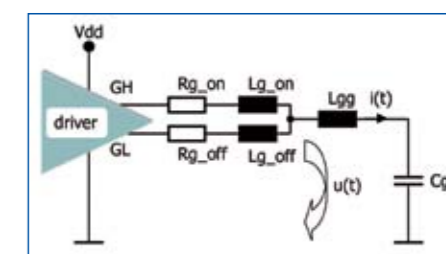
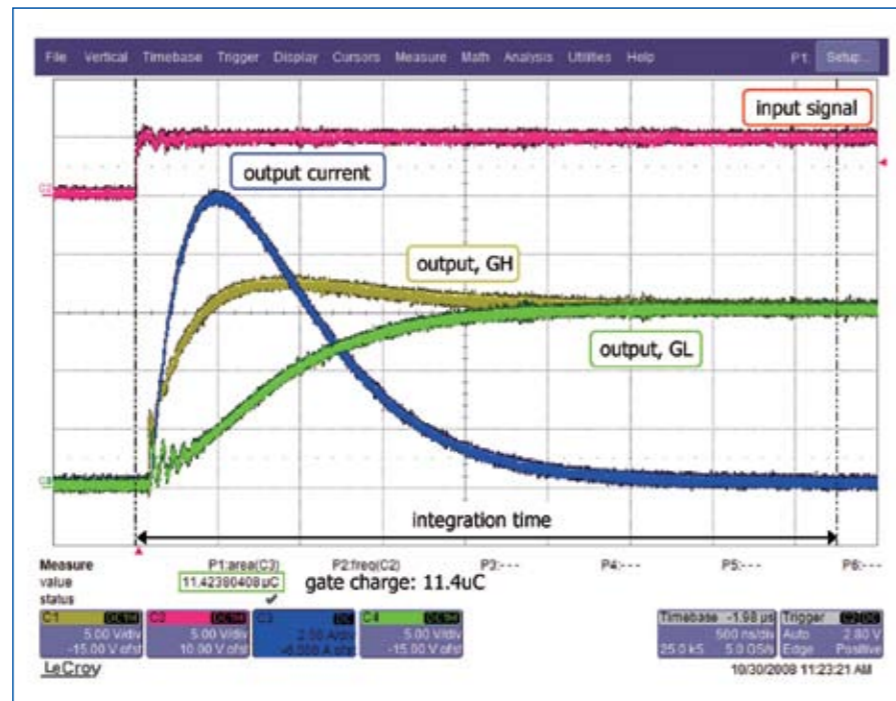

Figure 4: Circuit representation of a typical gate loop (simplified).
Figure5: Turn-on transition at 1W gate resistance and 15V driving voltage.
At very high frequency switching, the influence of parasitic circuit elements has to be considered to obtain optimum performance in the gate drive loop. Figure 4 illustrates a simplified gate loop consisting of a driver module, the turn-on and turn-off gate resistors, parasitic inductances of the gate resistors, the parasitic inductance of the power switch gate and an effective load capacitor. This configuration is a well-known standard RLC resonance circuit. For both the turn-on and turn-off transition, the elements can be concentrated into an effective gate resistance R_g , the load capacitance C_g and the sum of all effective parasitic inductances L_g . The gate drive current $i(t)$ is then governed by the differential equation (1).
In real-life applications, the model from Fig. 4 is too simplistic to model the circuit behavior. The maximum stable peak current is typically lower than the limit of equation (3) and is often close to two thirds of V_{dd}/R_g . Figure 5 shows an exemplary turn-on transition from 0V to 15V with a 1.0Ω gate resistor where the peak current only reaches 10A instead of the theoretical maximum of 15A. Thus the 60A current rating of the 1SC2060P leaves ample reserve for even the largest MOSFET power switches.
Figure 5 also shows the acquisition of the gate charge Q_g per switching transition. Q_g is equivalent to the area under the gate current curve. The required drive power can easily be calculated from equation (4).